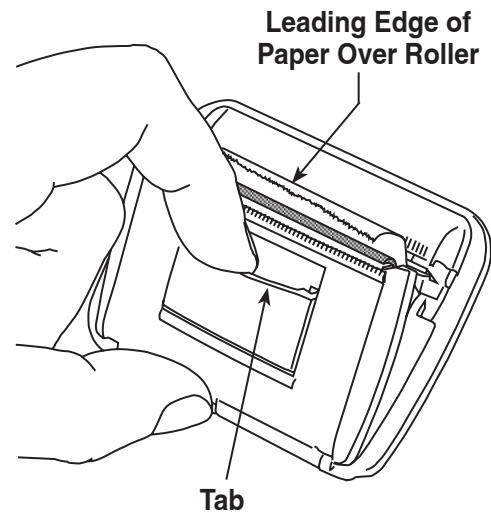

Figure 20
1. Remove the cover on the printer by pulling out on the tab as shown in Figure 20.